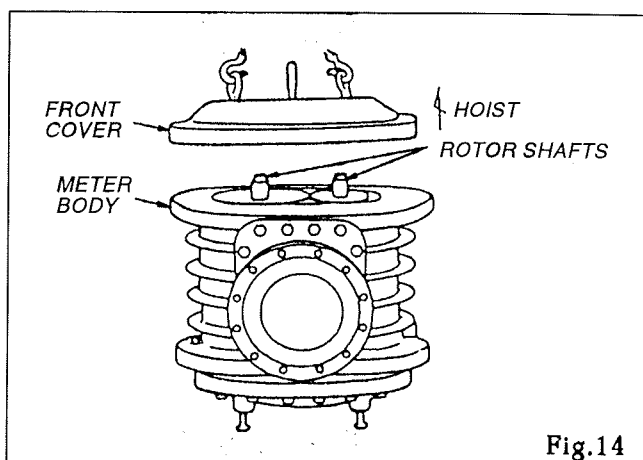

Fig.14
- (7) Remove front cover (102). To do this, take off twenty bolts (115) and remove locating straight pin retainer (109). Of the two nuts screwed into the straight pin, screw one into the straight pin retainer as shown in the figure. Draw it until completely out (Figs. 14 and 15).